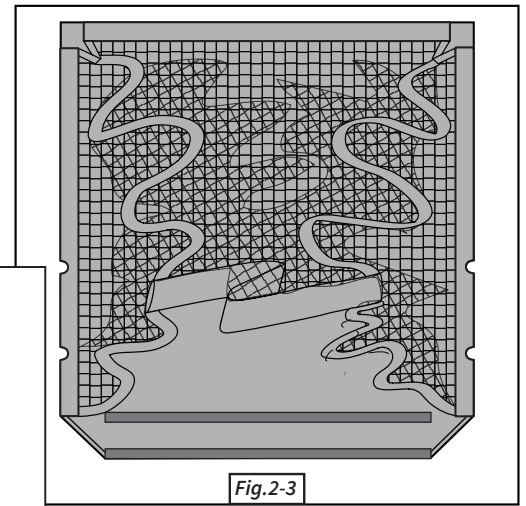

Fig.2-3
3. To build the net structure place the black vinyl net base on the floor with the net side up. (Fig. 2-3)